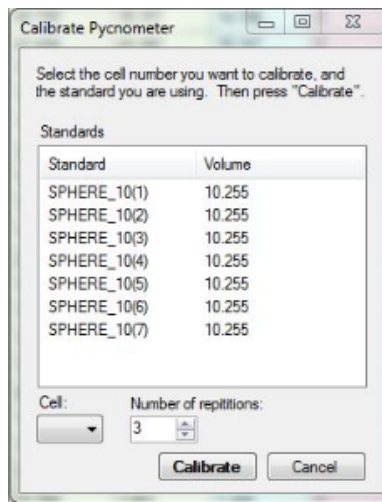

Figure 25. Selecting the standard and then assigning it to the cell.
First select the standard to be used in the calibration. For the 35 cm³ inserts (Wheaton vials and aluminum cups), the best results are obtained by using "SPHERE_10," which is actually a 3 cm³ and 7 cm³ standard used together. Once the standard is selected (again, the normal standard used is "SPHERE_10"), assign it to a pycnometer cell using the pull-down selector as shown in Figure 25. Use at least 3 repetitions for good precision between measurements. Select SPHERE_10(1) and assign to Cell 1, SPHERE_10(2) assign to Cell 2, and so on.